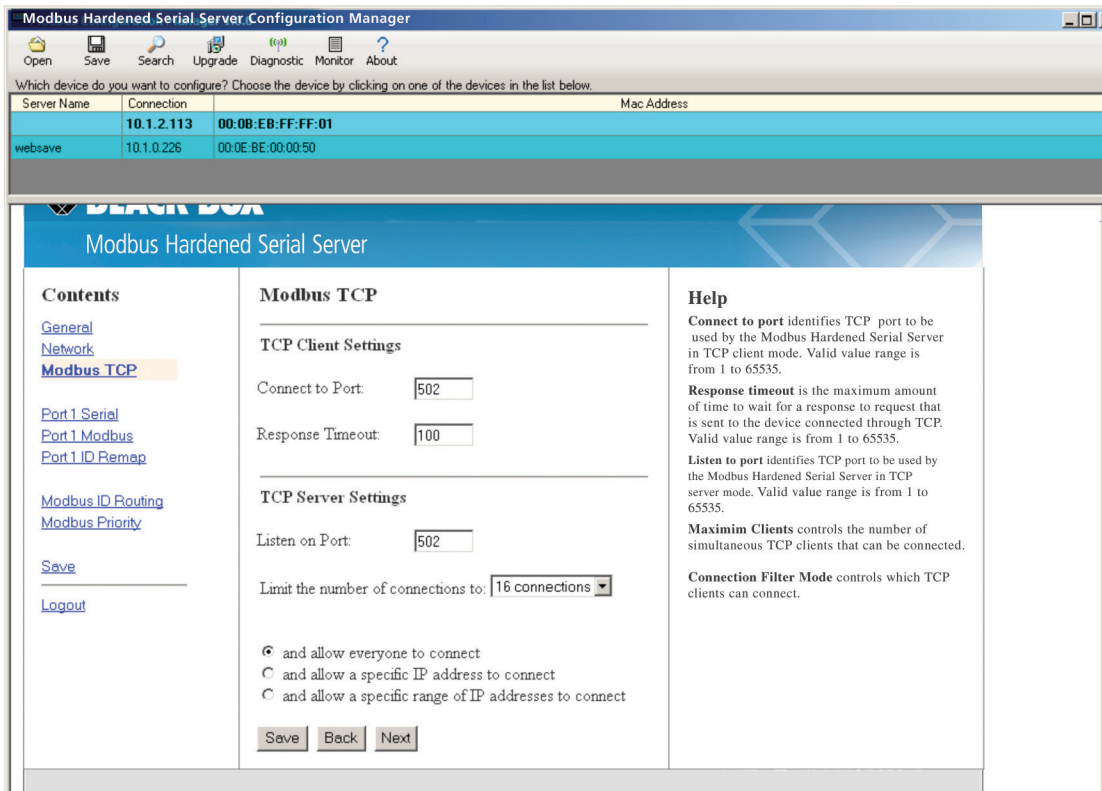

Figure 3-20. Modbus TCP Settings screen.
9. See the Modbus TCP Settings screen in Figure 3-20.